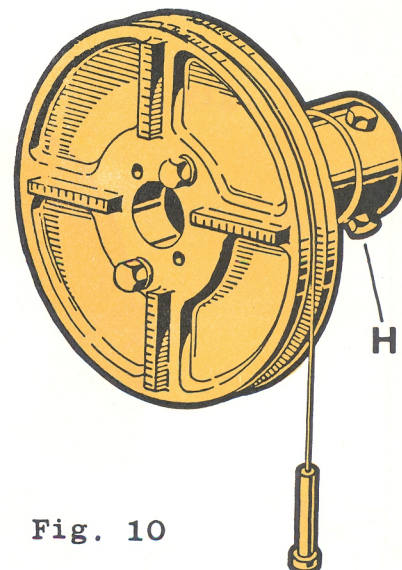

Fig. 10
- 10 Fit the tool so assembled to the end of pinion shaft and secure it in place by tightening the three setscrews "H" of the tool A.2.0274. See fig. 10.